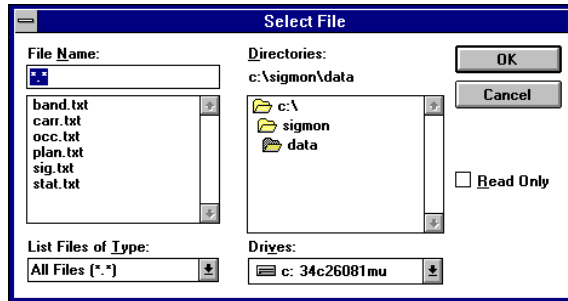

Figure 9-3: Select File Dialog Box
3. Select a Monitoring Plan or enter a filename (the default directory is \sigmon\data) for export and then click on **Select File** to open the **Select File** dialog box (Figure 9-3).